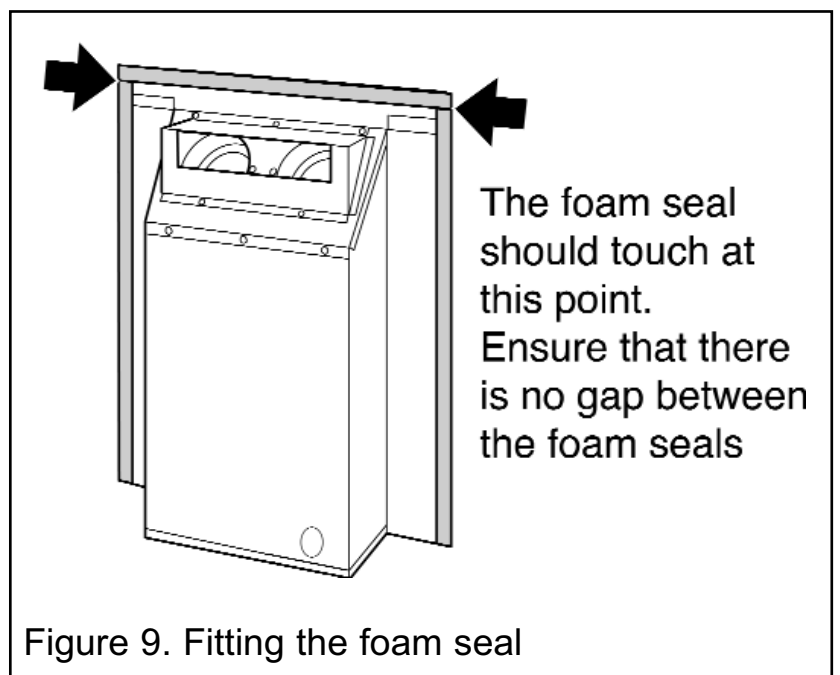

Figure 9. Fitting the foam seal
1. **For models with fascias that are located to the front of the convection box flanges:** There is a length of self adhesive foam seal supplied with the fire. This will need to be fitted to the outer rear edges of the side and top flanges of the convection box. Cut the foam seal to the required length. Be careful not to stretch the seal when measuring. Remove the protective backing from the foam seal and fit this to the rear of the convection box flange (See figure 9).
There is a length of self adhesive foam seal supplied with the fire. This will need to be fitted to the outer rear edges of the side and top flanges of the convection box. This will be fitted over the flanges of the fascia. **It is therefore important to ensure that the fascia is positioned correctly before fitting the foam seal.** (See fascia fitting guide supplied with the fascia). Cut the foam seal to the required length. Be careful not to stretch the seal when measuring. Remove the protective backing from the foam seal and fit this to the rear of the convection box flange (See figure 9).